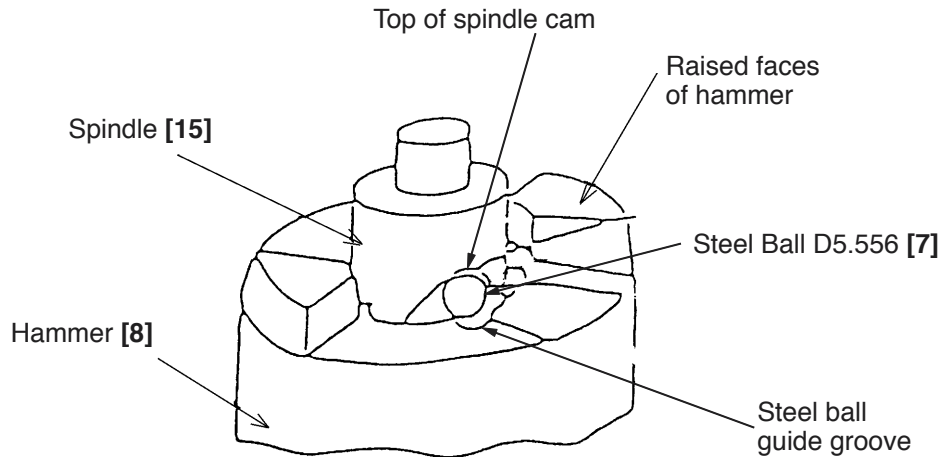
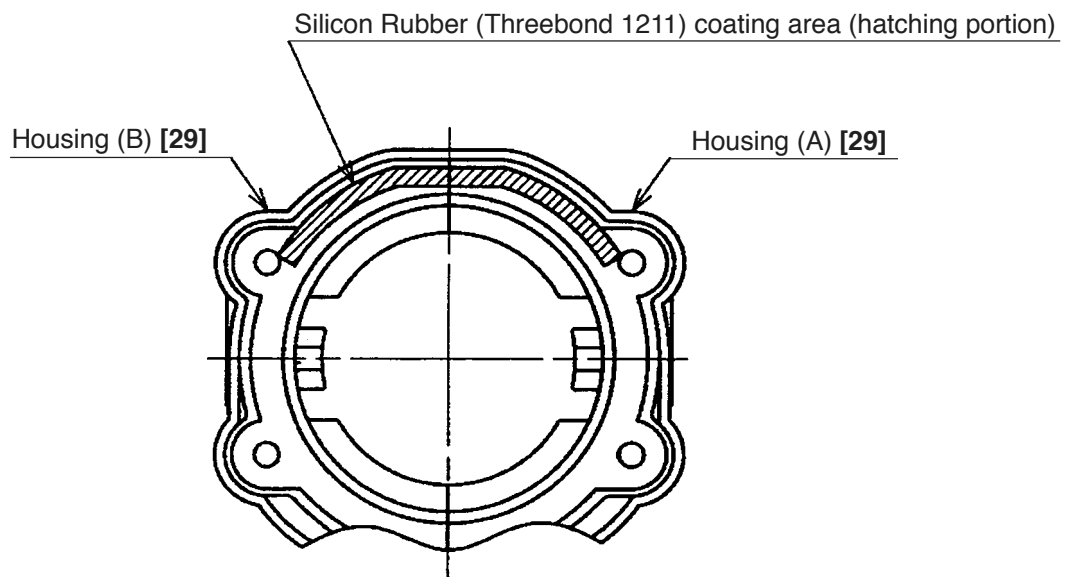

Fig. 4
Fig. 6
(3) Reassembly of the mechanical parts
- (a) Put Washer (S) [12] onto the shaft of the Spindle [15] and mount the Hammer [8] containing the twenty-eight Steel Balls D3 [9], Washer (J) [10] and the Spring [11] to the Spindle [15].
- (b) Align the top of the cam groove on the Spindle [15] with the steel ball guide groove on the Hammer [8] as illustrated in Fig. 4. Press down either of the raised faces of the Hammer [8] with a hand press to compress the Spring [11] until the end surface of the Hammer contacts the flange of the Spindle [15].
- (d) Mount the hammer assembly onto the J-297 base for washer (S). With a hand press, push down the top of the Spindle [15] to compress the Spring [11]. On this condition, mount the Stopper [13] onto the spindle shaft and then release the hand press.
- (e) Mount the Ring Gear [18], Washer (C) [19], Ball Bearing [20], Inner Cover [21], Damper [22] and the Retaining Ring [23] to the above reassembly. Furthermore, mount the other mechanical parts and Anvil (C) [6], then the Hammer Case [3].
(4) Mounting the Gear Box Ass'y [1] to the housing
Coat Housing (A).(B) Set [29] with Silicon Rubber (THREEBOND 1211) as shown in Fig. 6. Mount the Gear Box Ass'y [1] so that the pinion press-fitted in the Motor [24] properly meshes with the Idle Gear Set [16]. Check that Anvil (C) [6] turns smoothly. If not, the gear meshes improperly. Check the meshing condition. Tighten the four Tapping Screws (W/Sp. Washer) D4 x 35 (Black) [2]. Wipe the Silicon Rubber protruded from the housing with a cloth.